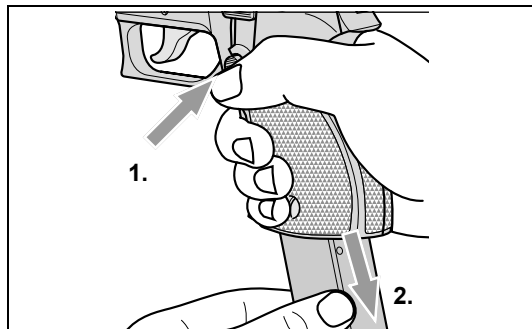

Fig. 2, Removing the magazine
1. Remove the empty magazine (see Fig. 2).
3. Press magazine catch **43** down and remove magazine (see Fig. 2).
2. Press magazine catch **43** down and remove magazine (see Fig. 2).